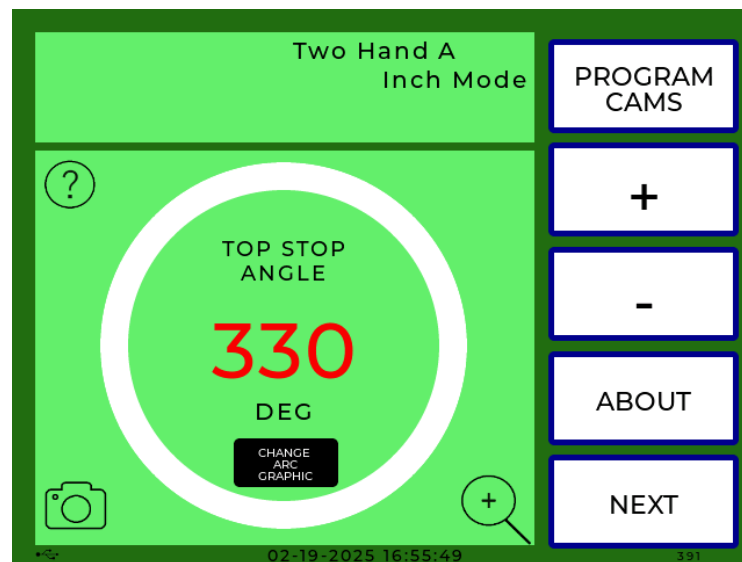

Figure 24. Top Stop Angle Screen
2. Press TOP STOP ANGLE. The Top Stop Angle display appears, Figure 24.